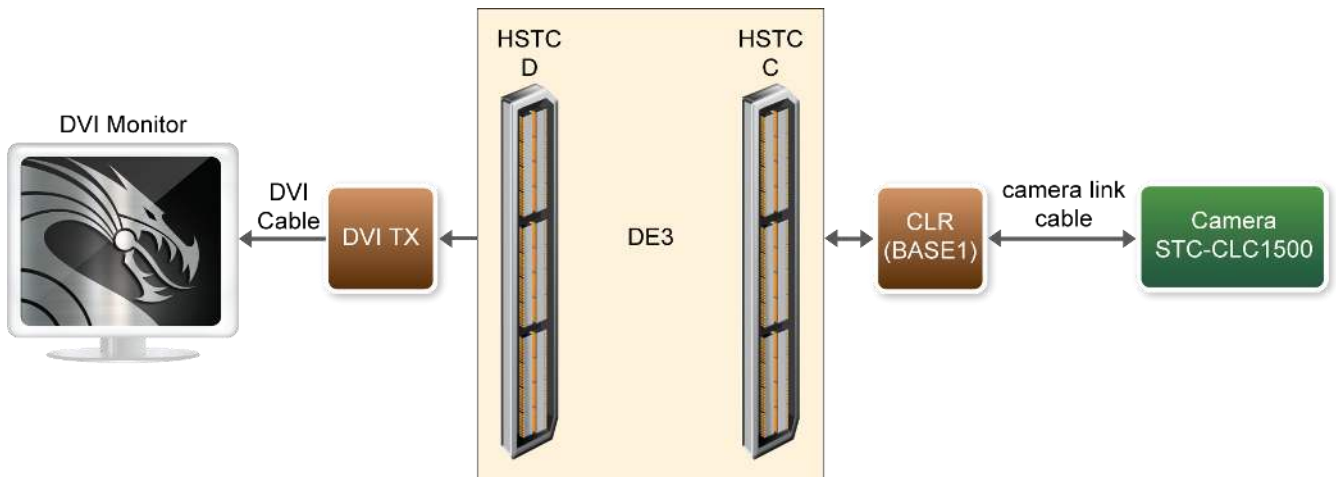

Figure 5-4 The Connection Setup for DE3 Users
1. Ensure the connection is made correctly as shown in **Figure 5-4**. Make sure the CLR Card is connected to **J5 (HSTC C)** and DVI daughter card is connected to **J7 (HSTC D)** of the DE3 board both with one **THCB-HFF** interface card which are bundled in the DE3 kit.